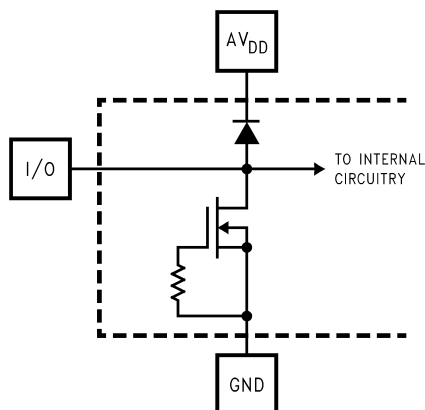

Figure 2.
- (1) The analog inputs are protected as shown below. Input voltage magnitudes up to 6.5V or to 500 mV below GND will not damage this device. However, errors in the A/D conversion can occur if the input goes above V_{DD} or below GND by more than 50 mV. As an example, if AV_{DD} is $4.75V_{DC}$, the full-scale input voltage must be $\leq 4.80V_{DC}$ to ensure accurate conversions. See Figure 2.
- (2) To ensure accuracy, it is required that AV_{DD} and DV_{DD} be well bypassed. Each supply pin must be decoupled with separate bypass capacitors.
- (3) Typical figures are at $T_J = 25^\circ\text{C}$, and represent most likely parametric norms. Test limits are specified to TI's AOQL (Average Outgoing Quality Level).